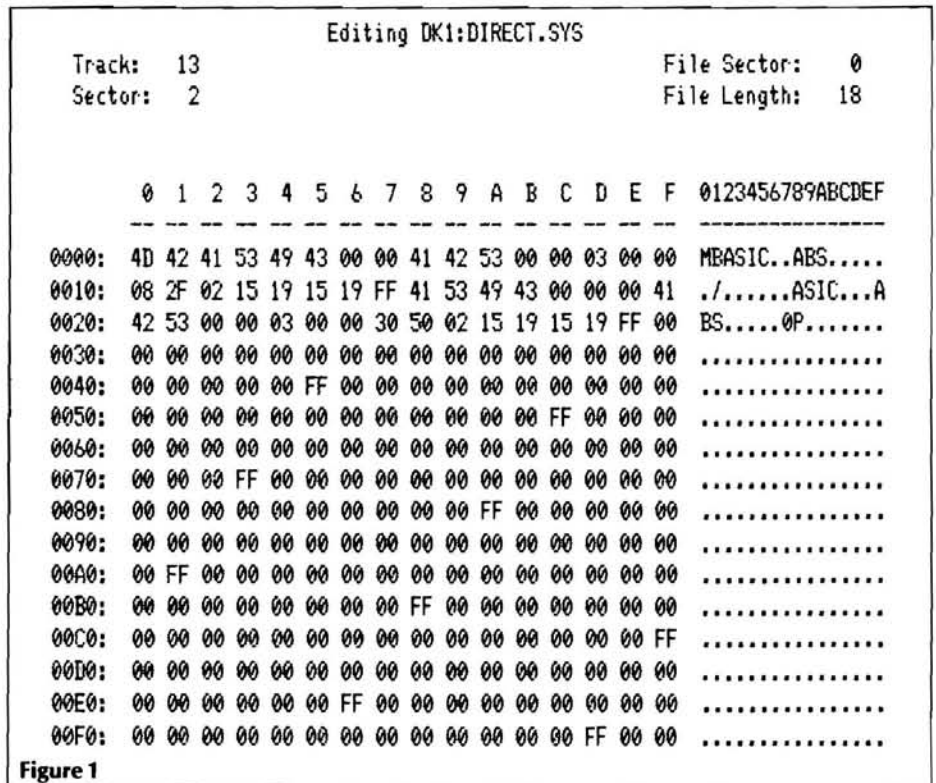
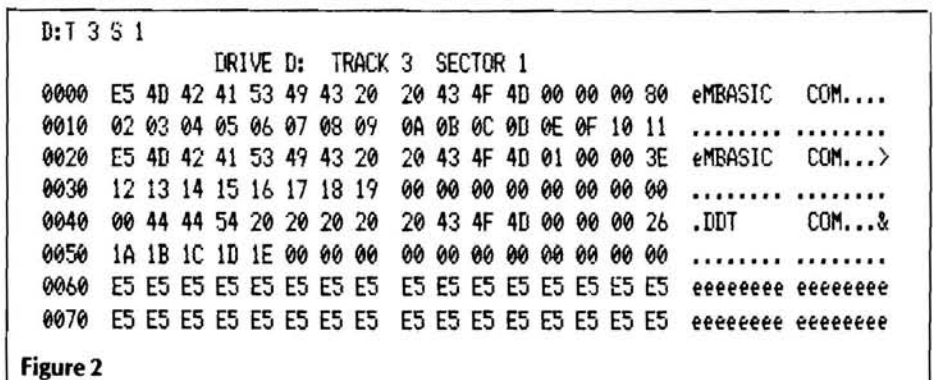

Figure 1
Figure 2
Start looking for your deleted file at the first sector of DIRECT.SYS and continue looking in succeeding sectors until you find it. Figure 1 is a UDUMP display of the directory of a disk containing a deleted file. The output from DUMP is similar. Notice that the left part of the display contains the hex values of the bytes on the sector, and the right part contains the ASCII (textual) interpretation of the data. This disk originally contained MBASIC.ABS and BASIC.ABS, but BASIC.ABS was deleted. You can see MBASIC in the display, but the
**Figure 2** is the SDUMP display of a disk that originally contained two files, MBASIC.COM and DDT.COM. MBASIC was deleted. The first thing that you will probably notice is that there are two MBASIC entries. This has nothing to do with the file being deleted, but is because of the size of the file. CP/M divides files into 16k segments called extents, and usually there is one directory entry for each extent, so a file bigger than 16k but less than or equal to 32k would have two directory entries. These entries will not necessarily be adjacent as in our example, but may be scattered throughout the directory. On some disk formats, there are two extents per directory entry, so MBASIC would have only one entry in that case.
2. Restore the deleted file's directory entry. After you have found the directory entry (or entries) for your deleted file, all you need to recover the file is to patch the entry to what it was originally. In Figure 2, you will notice a small e before the word MBASIC in each entry. This is SDUMP's ASCII interpretation of the number 0E5H. If you look at the line of numbers to the left of MBASIC, you will see that the first number is E5. To restore the entry, change this E5 to the user number occupied by the file originally. In most cases, files are in user number 0, so you would patch the E5 to 0. Be sure to patch each entry for a given file. Then when you exit SDUMP, you can do a DIRectory on the disk and see that the file is restored.
For those who prefer to "roll their own" reference is made to my article published in the November 1981 issue of REMark. The receiver audio to TTL converter remains the same. (See fig 1). Fig 2 shows the revised circuitry for signal routing with the necessary interface for RS232C levels.